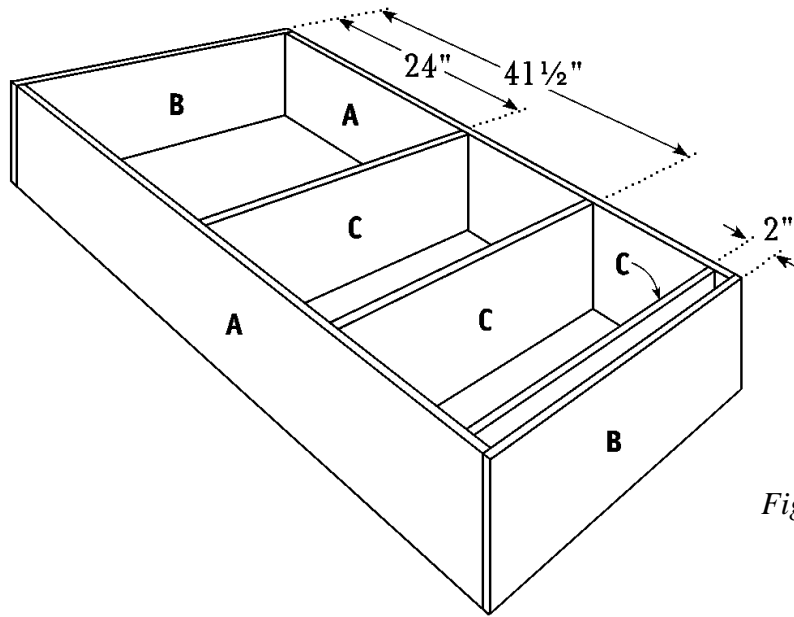

Figure 1
1. Cut two Sides (A) from 3/4"plywood, each measuring 63-1/4 x 15-1/4 inches.
2. Cut two Top/Bottoms (B) from 3/4"plywood, each measuring 33-3/8 x 15-1/4 inches.
3. Place the two Sides (A) on edge on a level surface parallel to each other 31-7/8 inches apart. Fit the Top/Bottoms (B) over the ends of the Sides (A) to form a rectangle, measuring 64-3/4 x 33-3/8 inches as shown in *Figure 1*. Apply glue to the meeting surfaces, and screw through the Top/Bottoms (B) into the edge of the Sides (A). Use 1-5/8"wood screws spaced about every five inches.
4. Cut three shelves (C) from 3/4"plywood, each measuring 31-7/8 x 15-1/4 inches. Place the first Shelf (C) 24 inches below the top (B), as shown in *Figure 1*. Screw through the Sides (A) into the edges of the Shelf (C). Use 1-5/8"wood screws about every five inches.
5. Repeat Step 4 to attach the second Shelf (C) 41-1/2 inches below the Top (B).
6. Repeat Step 4 to attach the third Shelf (C) 2 inches above the Bottom (B).